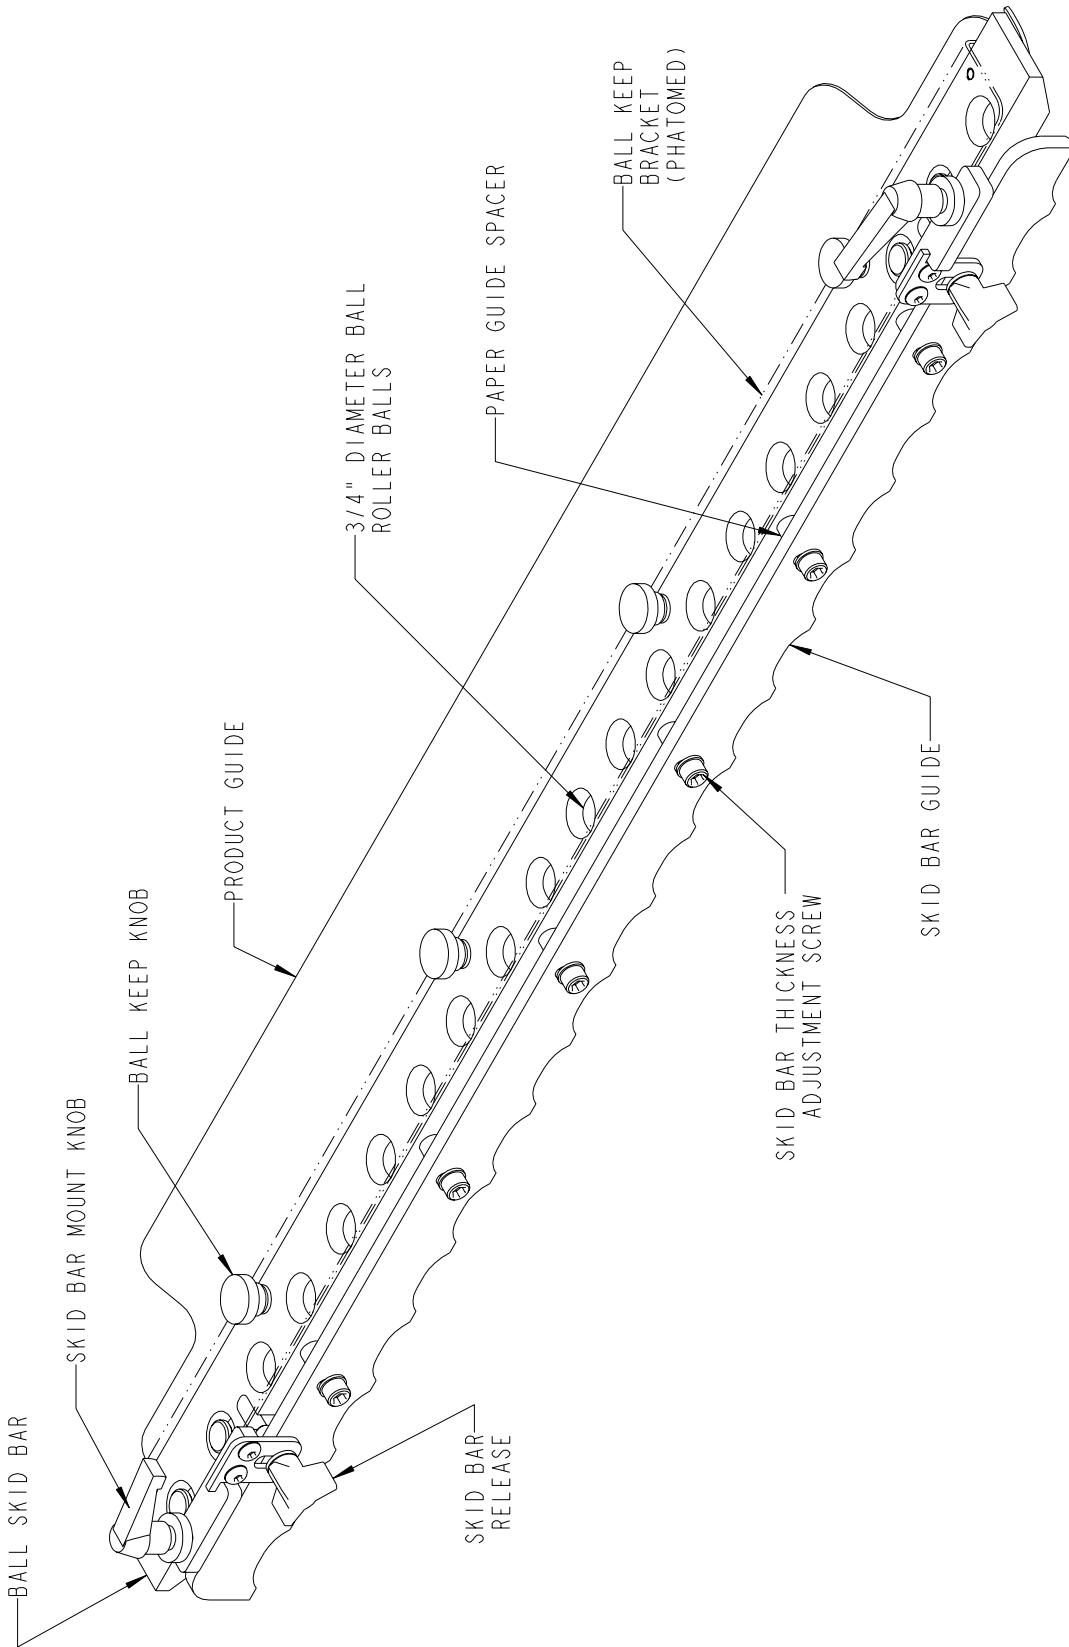

FIGURE 5.0
4.1.4 Roller Ball Skid Bar Assembly Component Description (See Figure 5.0)
11. If feeding product from the side, install the speed up roller assembly (see **Picture 6**) and connect the speed up roller motor to the electrical box (see **Picture 1**). Adjust the pinch rollers for the size and thickness of the product using the pinch roller adjustment knobs (see **Figure 5.0**).
12. Set the main speed (see **Figure 3**) so that the tube rollers run slightly faster than the upstream equipment. If feeding product from the side set the speed of the speed up roller (see **Figure 3**) so the product has enough speed to reach the skid bar guide without skewing (Too much speed will cause excessive bounce back off the skid bar guide.). Adjust the trajectory of the product using the pinch roller assembly adjustment knobs (see **Figure 5.0**)
2. Unplug the motor connection for the speed up roller (see **Picture 1**), remove the knobs on each end of the speed up assembly (see **Figure 5.0**), remove the speed up assembly (see **Picture 6**) and set aside.